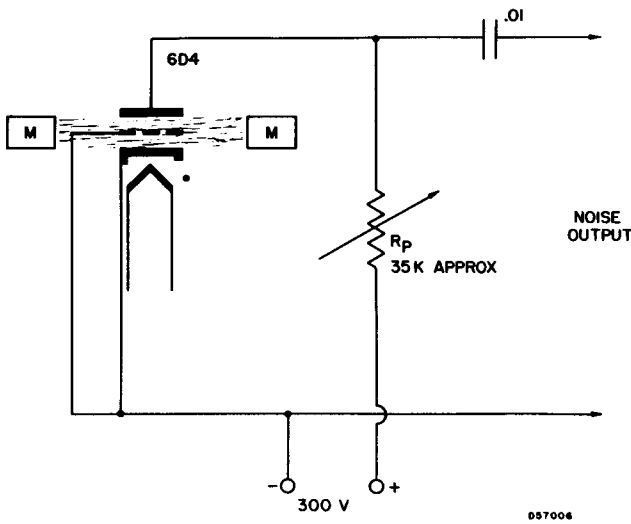

FIGURE 1. BASIC CIRCUIT OF NOISE GENERATOR
2. The tube shall be placed in the circuit shown (Figure 1) in a constant magnetic field of $375 \pm 20\%$ gaussses which is perpendicular to the normal electron path. The direction of the magnetic field shall be such as to deflect the electron beam toward the top of the tube. The noise voltage measured at the plate of the tube and across the output of the circuit shall not be less than the specified limit in peak-to-peak volts. The oscilloscope used for noise amplitude measurement shall have a 3 db video bandwidth extending to at least 4 megacycles.
In Figure 1, the tube is employed as a diode with the grid connected to the cathode. The plate series resistance (R_p) should be selected to limit the plate current (I_b) to about 6 to 7 ma with a plate supply (E_{bb}) of approximately 300 volts (with the specified magnet in place the plate supply voltage may be as high as 300 volts). Supply voltages lower than 250 volts may cause uncertain firing.